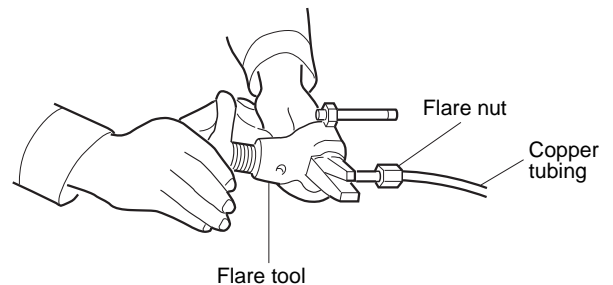

Fig. 8-3
- (3) Remove the flare nut from the unit and mount it on the copper tube.
- (4) Make a flare at the end of copper tube with a flare tool.\* (Fig. 8-3)